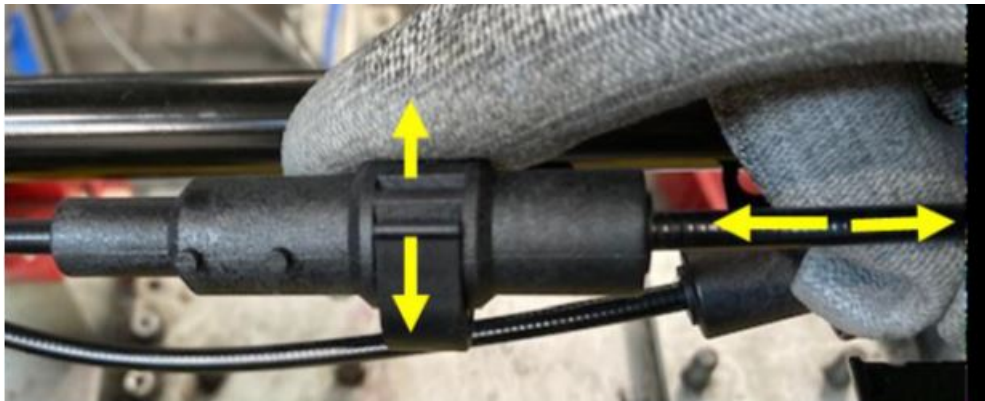

Fig. 1
8. Check if the cable **adjusters** are fully locked in place. Lock tab must be pushed up completely (Fig. 1) .